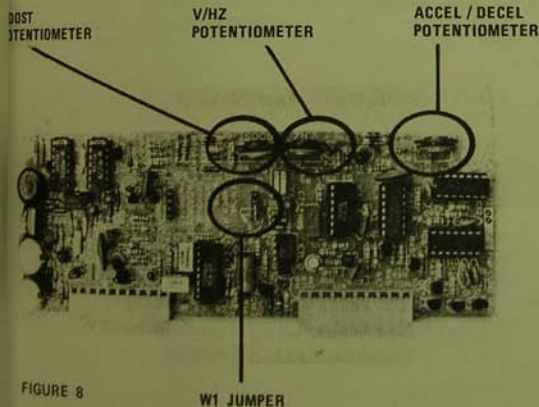

FIGURE 8
- 5.2.1 Check for the following setting on the control module. Reference Figure 8.